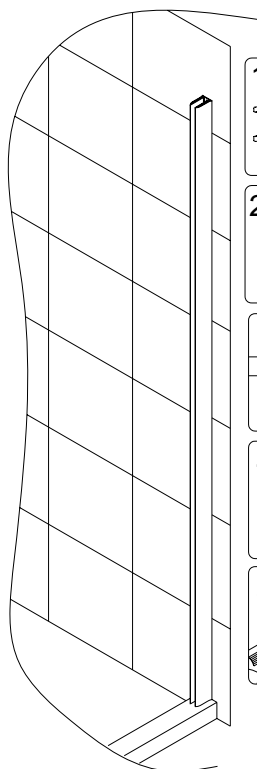

Fig 7
7. Push the **Glass profile (4)** into the **Wall profile (5)** and push the **Anti-water strip (10)** into the groove of the glass profile. Close the glass door against the **Anti-water strip (10)** (Fig 7/3) to find the proper position of the wall profile. (You can pull the **Glass profile** from the **Wall profile** to adjust width). Mark the position of the **Wall profile** on the wall.
8. Pull out the glass profile from the wall profile. Use predrilled holes in the aluminum profile to mark holes for drilling. Now drill holes in the wall and insert the **Wall anchors (13)** into the holes. Apply silicone sealant along the holes on the wall. Attach the **Wall profile (5)** to the wall using **Flat head screws ST4.2x30 (18)**. See Fig 7 for details.
9. Again push the **Glass profile (4)** with the **Anti-water strip (10)** into the groove of the **Wall profile (5)**.